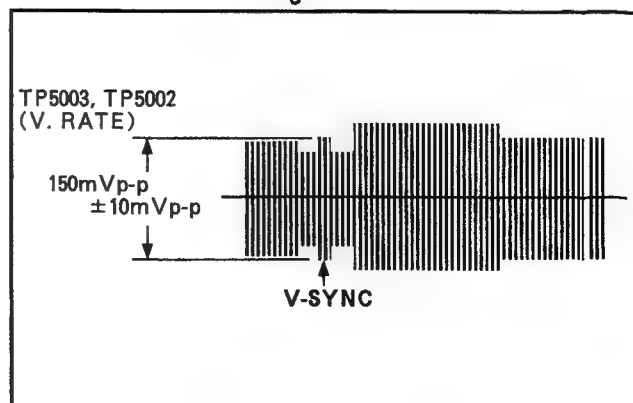

Figure E8
6. Next, adjust VR5001 for $150mV_{p-p} \pm 10mV_{p-p}$ as luminance signal as shown in Figure E8.